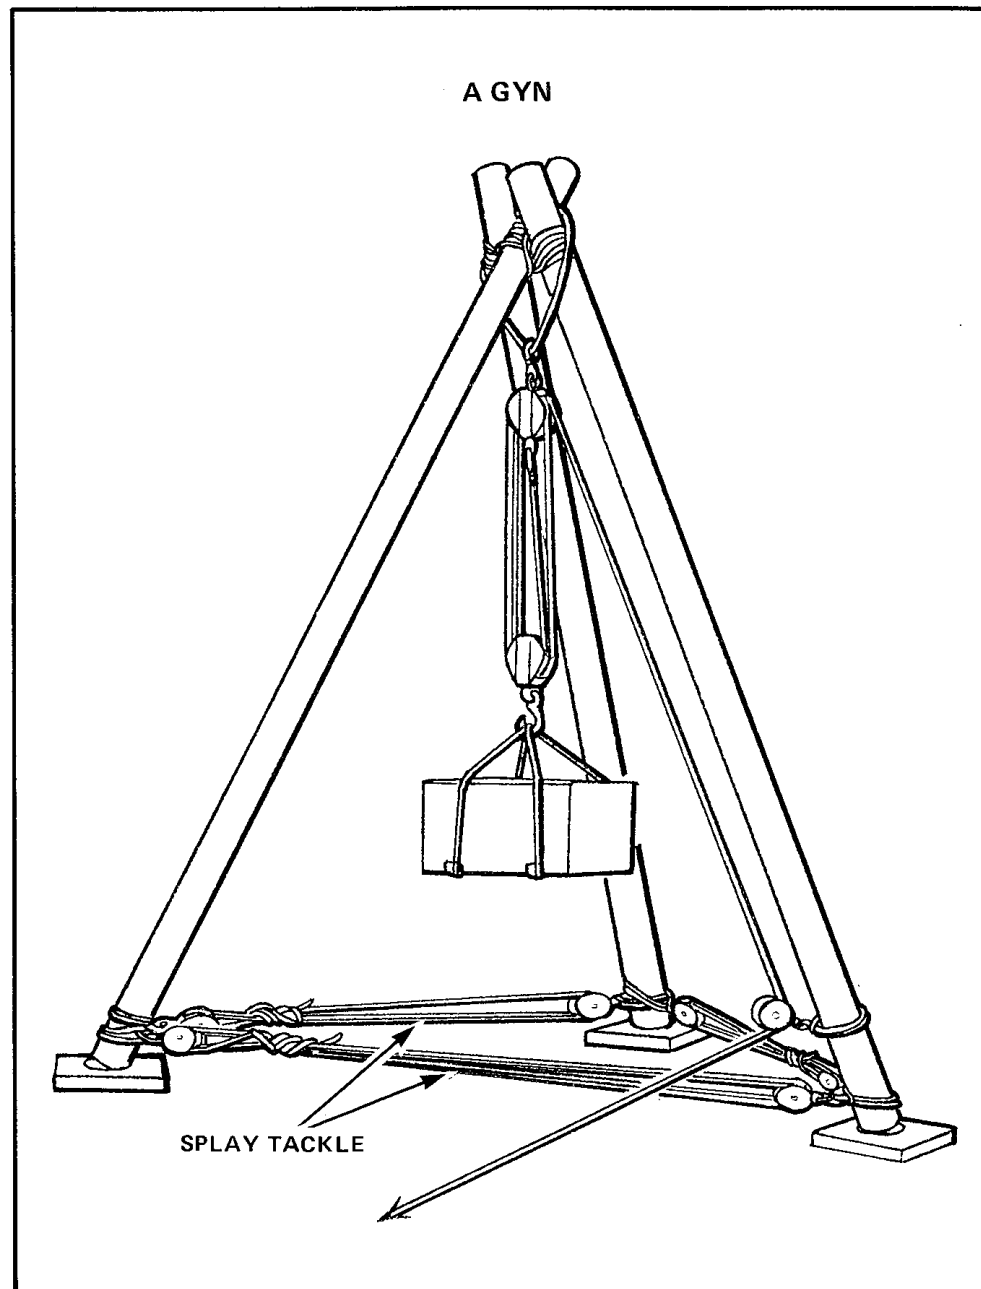

Figure 4-78 A Gyn
45. **Attaching the Tackles and Strop** — The heels of the two legs which are lying close together are now opened out, and the **splay tackles** are rigged between the feet of each pair. The gyn is then raised by lifting its head and hauling the heel of the odd leg towards the other two by means of the splay tackles. When the head reaches a convenient height **the strop for the upper block of the purchase** is put on and **the block itself secured to it**. Placement of this strop must be as shown in Figure 4-78. Note that it goes under the centre spar and over the outside spars. This is done by holding the strop under the centre spar and slipping the bight on each side over the end of the outer spars. Purchase strops must never hang on the lashing. Then tackles are rigged as required to haul the feet into place on their shoes. When thus correctly placed the feet are secured by lashing, or heel tackles led so as to give the necessary lateral support, and **the hauling part of the purchase is led through a block** secured to the heel of one leg. All hooks used in the above operations should be securely moused.